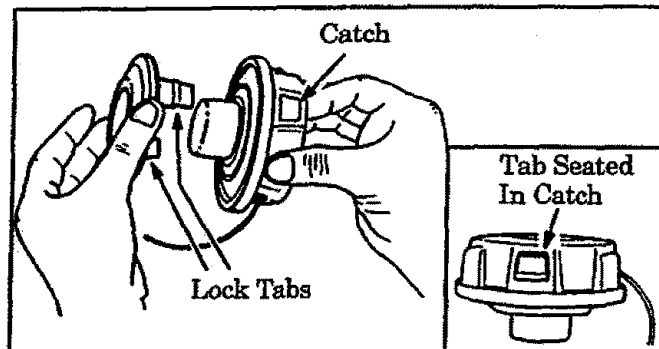

Figure 16
- h. Align the Lock Tabs on the Cover over the Catches on the Hub. Push the Cover down onto the Hub until the parts snap together. Figure 16.
- i. Check to make sure the Lock Tabs are properly fastened as shown in Figure 16 (inset).